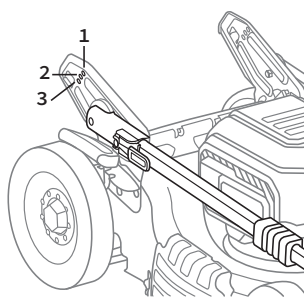

Fig. 2B
2. The lawn mower offers 3 adjustable handle positions. Move the lower handle up or down to the position that best suits your height (Fig. 2B).